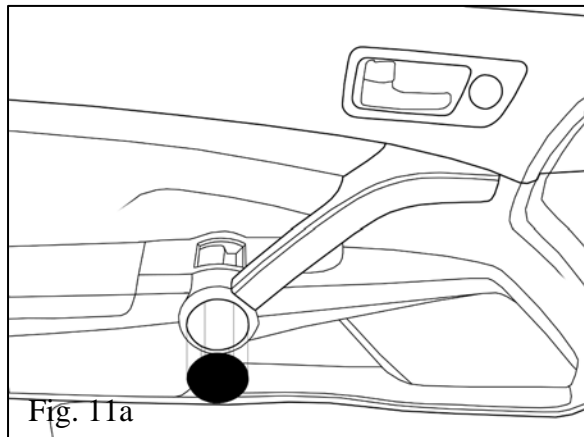

Fig. 11a
- (1) Align part uniformly to edge of factory component. Edge of appliqué should be flush to edge of factory component, $\pm 1.0\text{mm}$. (Fig. 11a)
- (2) Orient the parts with the weave at 45 deg. to vertical.
- (3) Gently touch part into position.